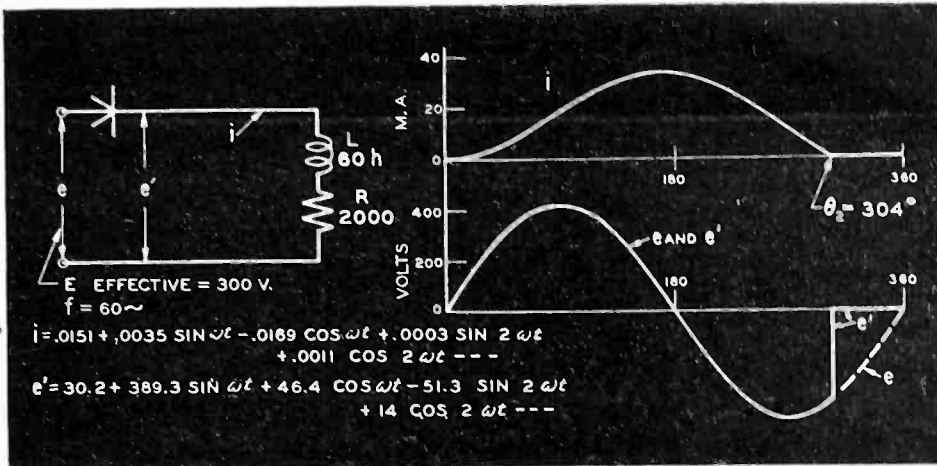
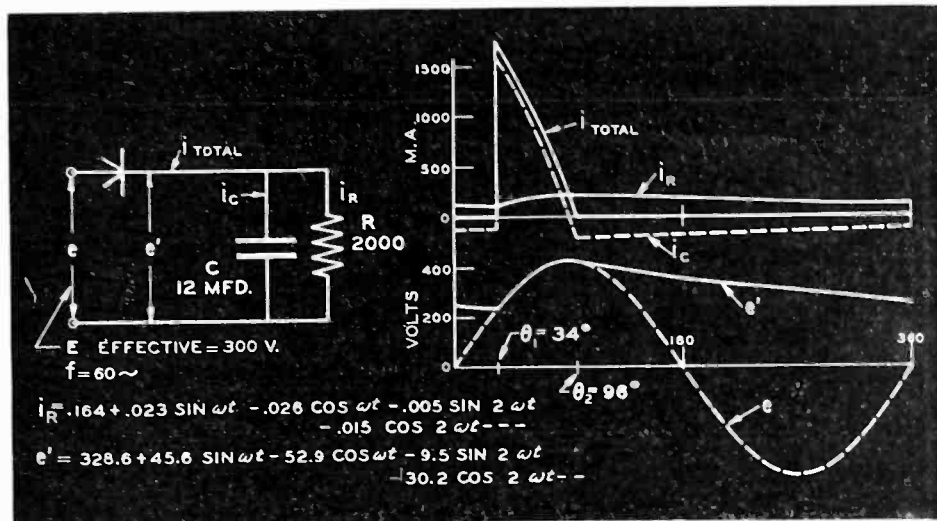
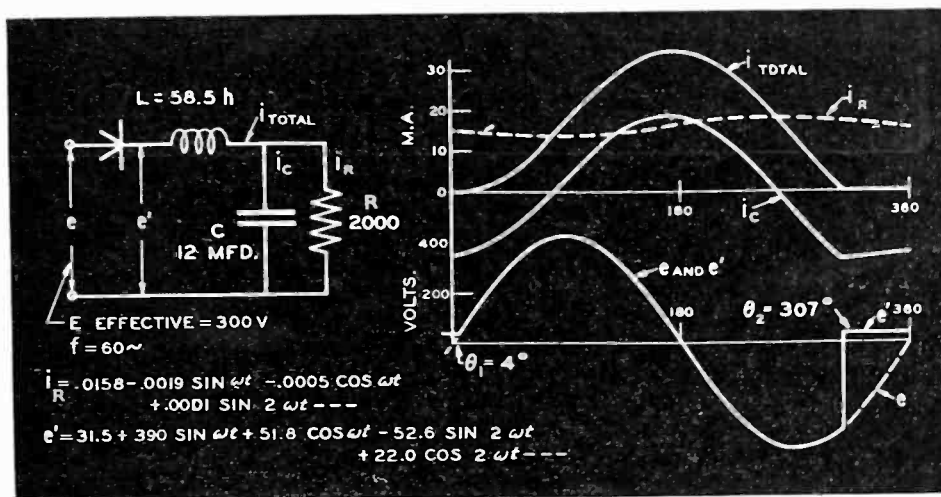
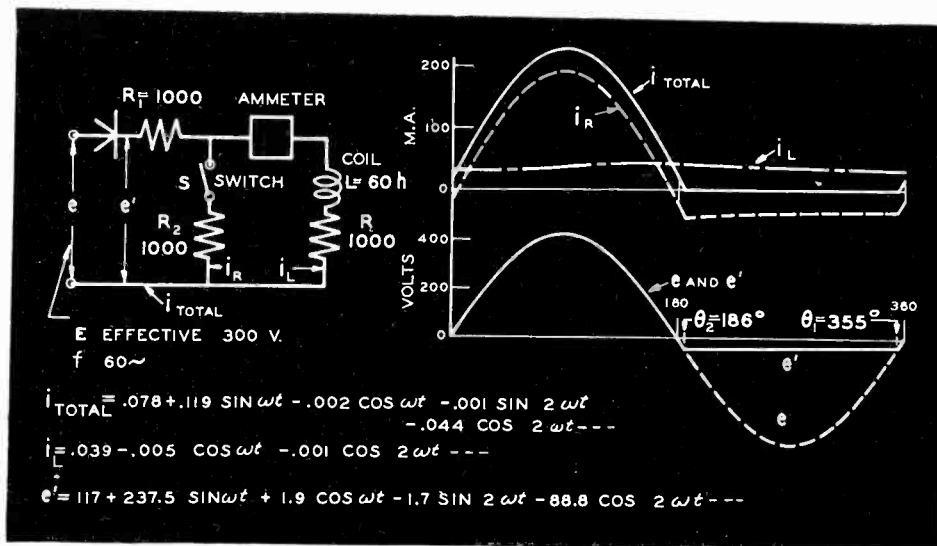

Fig. 2—The effect of inductance in the load circuit is to increase the period of conduction
Fig. 3—When a capacity is in parallel with a resistance, the conduction period is decreased, but there is a continuous flow of current through the resistance
Fig. 4—A simple filter circuit causes the conduction period to continue to beyond the 300 degree point
Fig. 5—Resistance, R_2 , provides a discharge path for the inductance, confining the conduction period to the range between zero and 186 degrees
Figure 2 shows the current in a circuit consisting of resistance and inductance in series. It will be seen that conduction continues beyond the 180° point due to the induced emf of the inductance. For the constants used in this case the "switch" opens at about 304° , so e' follows the sinusoidal form until that point is reached, and is zero for the remainder of the cycle. The average value of the e' curve (which is the
Figure 3 shows the effect of placing a condenser in parallel with a
Figure 4 shows a simple form of filter circuit. Here, as in Fig. 2, the inductance causes conduction to continue far beyond the 180° point. After θ_2 there is an exponential section, for the same reason as in Fig. 3. The smoothing effect of the circuit on the load (i_R) is shown by both the equation and the curve; the condenser takes the major part of the alternating current through L . The voltage e' has a small d-c component, and a very large fundamental frequency term (85 per cent greater than in Fig. 1).
Figure 5 shows a circuit which is essentially the same as one reported by a contributor to *Electronics*³ with values modified. The applied voltage has been multiplied by 20 and all impedances by 100, to make the case comparable with the others presented here. The proportions remain as in the reported case, but the current should be one-fifth as great. No attempt is made to correct for rectifier imperfections as no data were given regarding the rectifier characteristics. The constants of the circuit, with S open, are the same as in Fig. 2, so the effect of closing the switch may be found by comparison of Fig. 2 and Fig. 5. The circuit as a whole gives a more nearly resistive effect with S closed and conduction lasts only to 186° . After 186° , e' has a negative exponential section, due to the decreasing current through the coil and R_2 . In this case e' has an average value nearly four times as great as in Fig. 2, and the total circuit resistance is lower, so that the total current (average value) is about five times as great. The average coil current is half of the total or about 2.5 times as great as in Fig. 2. It is also much smoother in form. The observed increase of coil current upon closing S seems unreasonable if R_2 is consid-
ered only as a shunt which diverts current from the coil. The influence of R_2 on wave forms is of greater importance in this circuit, as becomes evident upon a study of the change in conducting period of the rectifier. Physically, R_2 might be visualized as providing a discharge path for the inductance, thus enabling the rectifier to shut off near the 180° point, and so not subject L to the negative supply line voltage during the half cycle from 180° to 360°, as in Fig. 2.
2. The effect of circuit changes, as in Fig. 5, can be understood only by a study of the wave-form changes.